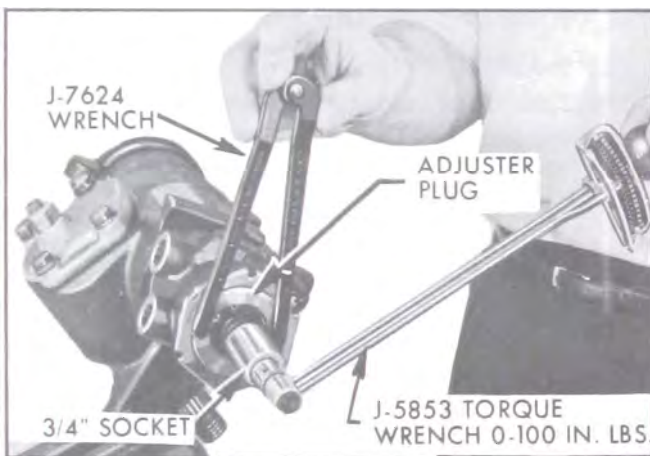

Figure 8-39—Adjusting Thrust Bearing Preload
3. Loosen adjuster plug lock nut and back off adjuster plug approximately $1/8$ turn with adjustable spanner wrench J-7624. Attach torque wrench J-5853 with $3/4$ inch 12 point socket to stub shaft and turn shaft to approximately $1/2$ turn from either extreme. Slowly rotate wrench in an arc approximately 60° ($1/6$ turn) in both directions several times to measure valve drag and record highest reading. See Figure 8-39. Then tighten adjuster plug until thrust bearing preload is 1 to 3 inch pounds in excess of drag measured with adjuster plug backed out. Total of thrust bearing preload and valve drag should not exceed 11 inch pounds.